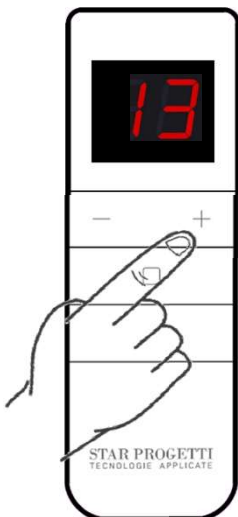
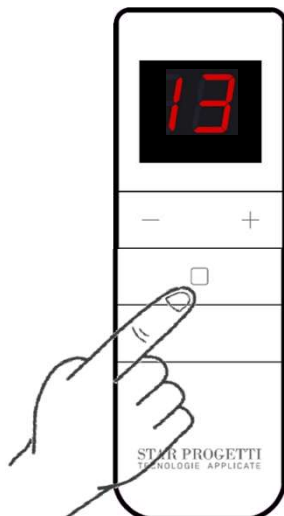
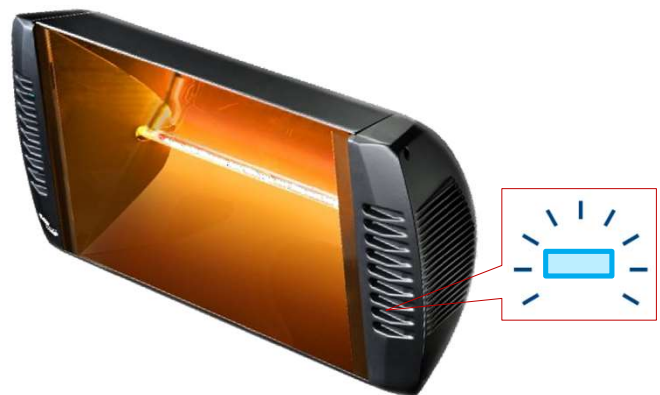

Fig.4
Fig.5
Fig.6
- Use the "+" and "-" buttons to select channel 13 Fig. 4 and then press and hold the button as shown in Fig. 5
- When the Blue LED light on the heater starts flashing Fig.6, release button Fig. 5.